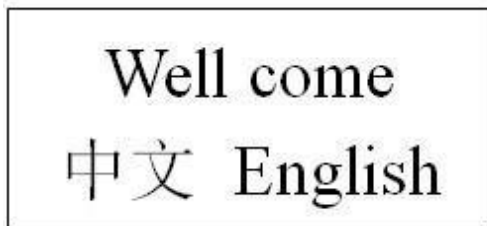
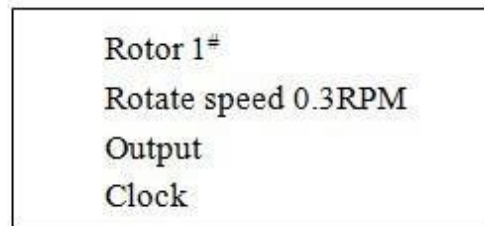
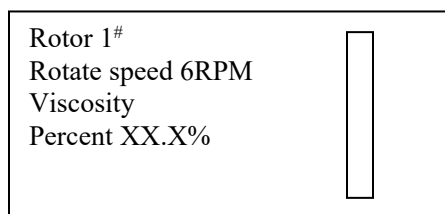

Figure 5
Figure 6
Figure 7
- ii. Turn on the power switch, enter standby state, the instrument display both Chinese and English character. Screen shown in figure 5. Press  or  to select language mode you need, press OK to set, press OK to enter, screen shown in figure 6:
- iii. Press  or , switch to rotate speed mode. Cursor stop at 6RPM (Figure 6), press  or , select rotate speed, the instrument has five rotate speeds: 6 rpm, 30 rpm, 60 rpm and auto mode. After setting rotor and rotate speed, press OK, the rotor begins to rotate, and the instrument begins to measure, screen shown in figure 7
In figure 7, the rotate speed unit is RPM, and the viscosity unit is mPa·s; the vertical bar on right side displays the sampling process; percent: the measured viscosity is the percent of the full scale.
- v. In figure 6, move the cursor to output mode, press  or  to select communication state or print state.
- vi. In figure 6, move the cursor to clock mode, press  or  to select display mode or amendment mode, if you choose the display mode, current time can be displayed; if you choose the amendment mode, you can amend time and date.